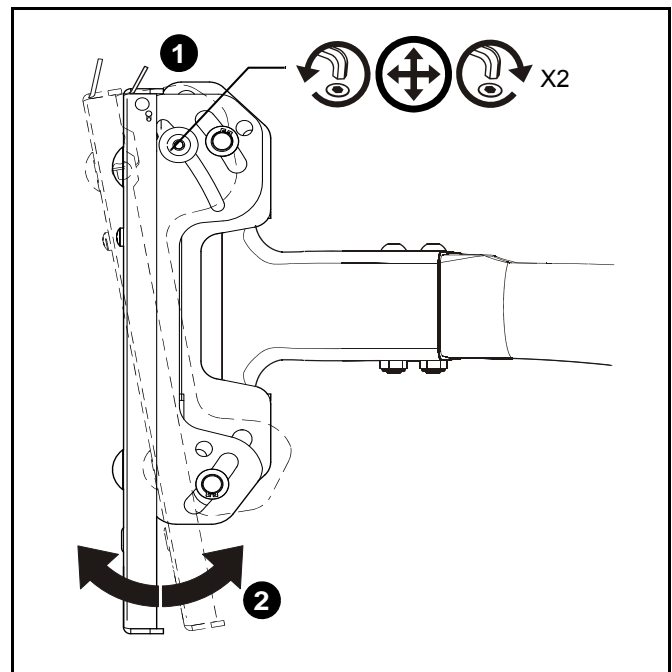

Figure 9
1. With display installed, tighten or loosen two screws, one on each side, using the 5/32" hex wrench. (See Figure 9)